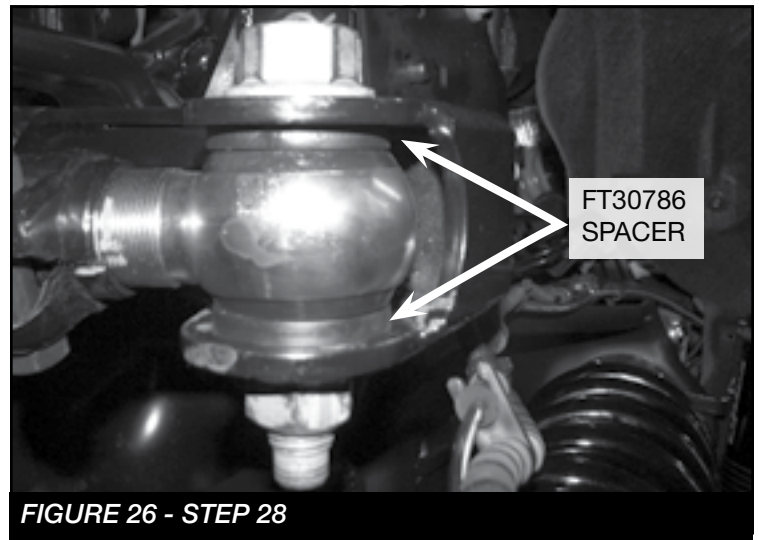

FIGURE 26 - STEP 28
28. Using (2) FT30786 (Washers). Install the track bar into the new Fabtech track bar using the factory bolt. Torque to 406 ft-lbs. **SEE FIGURE 26**